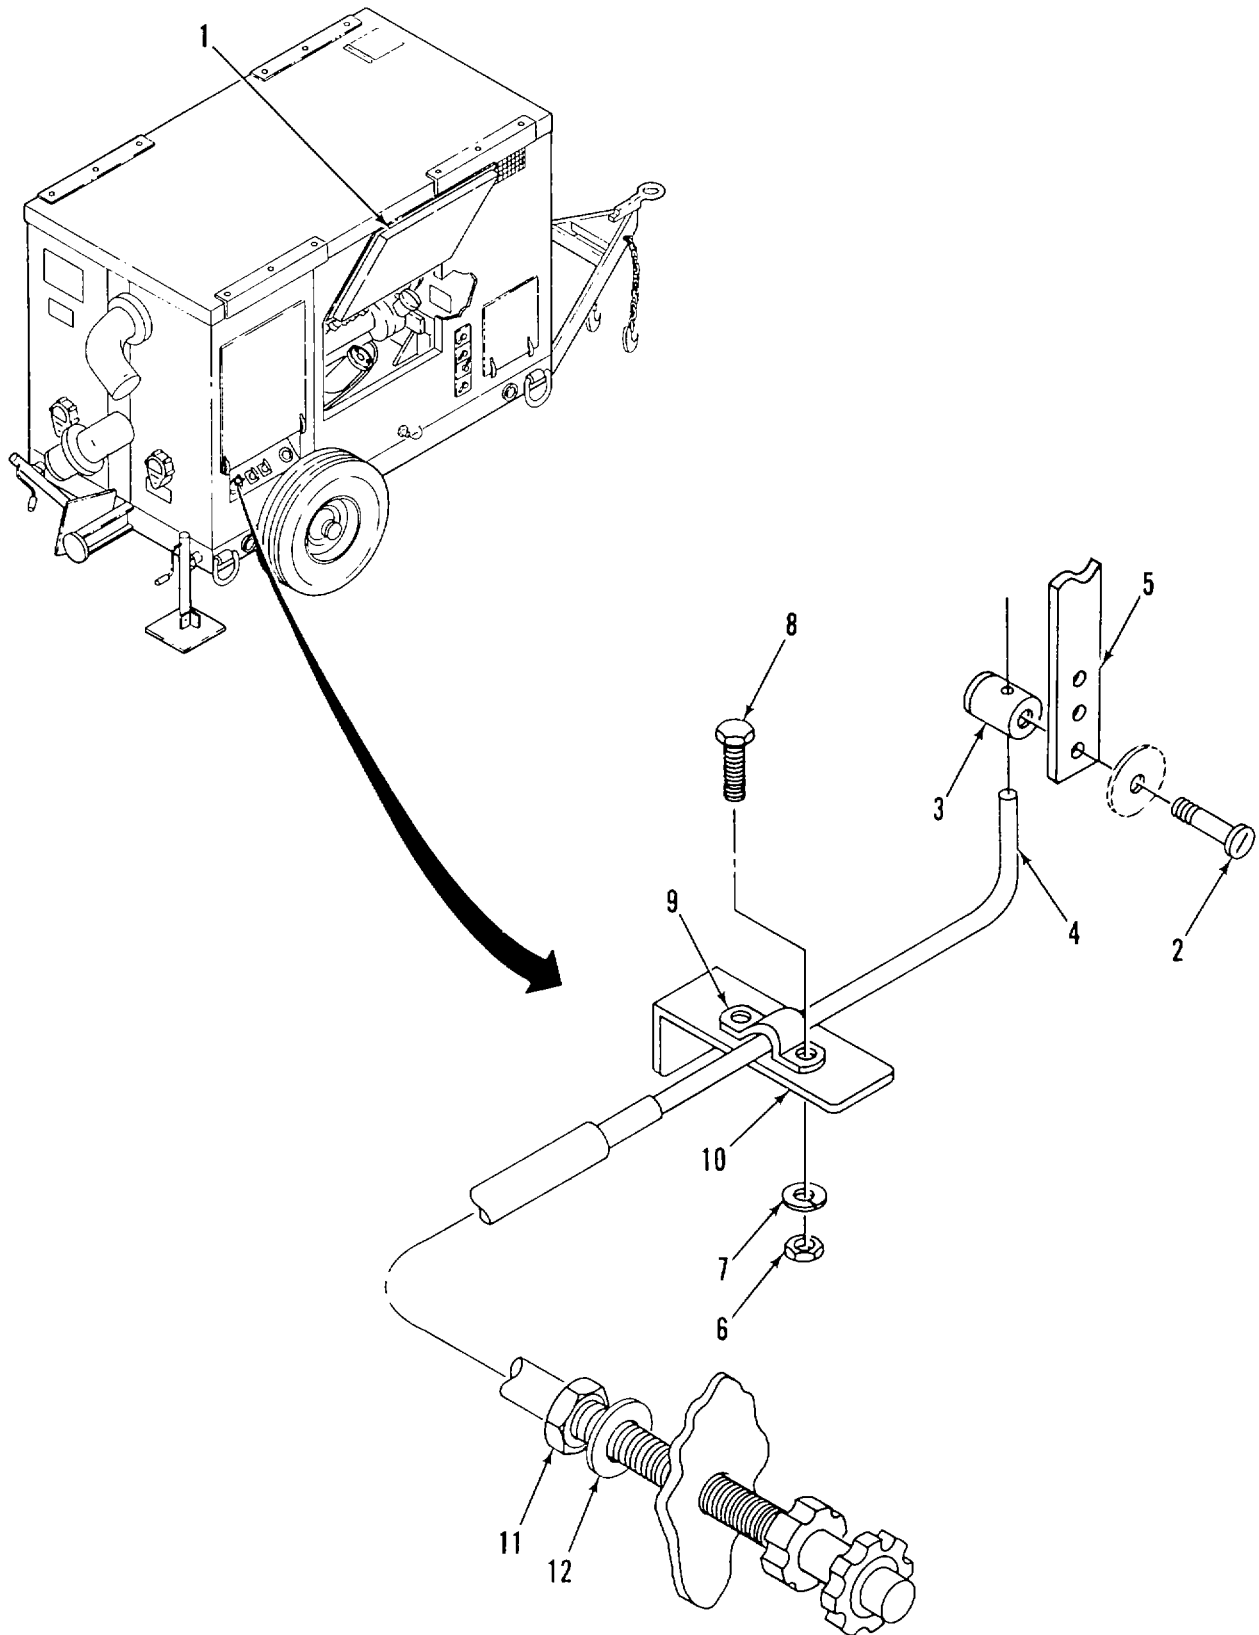

Figure 2-19. Manual Throttle Control Cable
a. REMOVE. (Figure 2-19)
- (1) Open engine access door (1).
- (2) Loosen screw (2) from cable locking nut (3) and remove wire of cable (4) at fuel injection pump lever (5).
- (3) Remove nuts (6), lockwashers (7), bolts (8), and saddle clamp (9) that secure cable (4) to bracket (10).
- (4) Remove nut (11) and washer (12).
- (5) Remove cable assembly (4) by pulling away from panel.